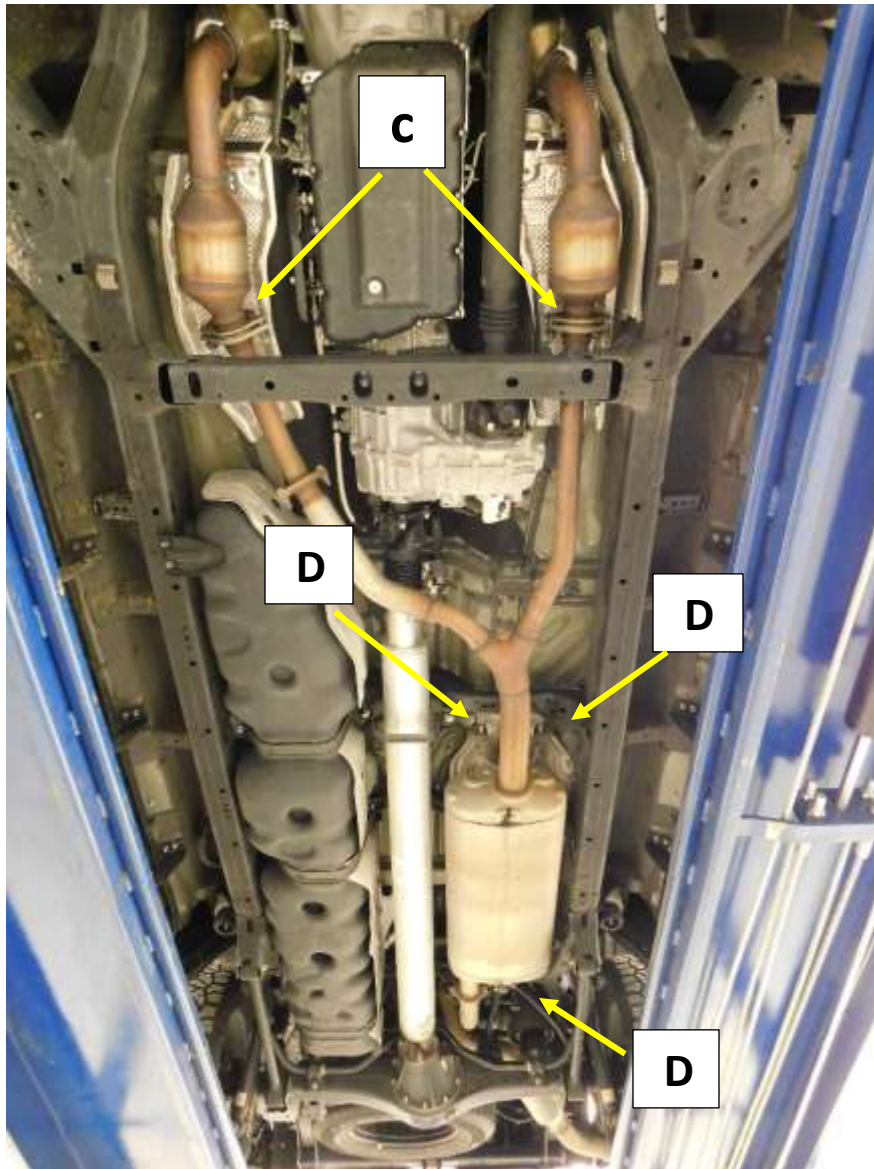

Figure 3
5. Remove the spring bolts from the flanges on the Y-Pipe at the catalytic converters **(C)**. **Fig.3**
8. Remove the isolators from the front and rear of the muffler **Fig.3**.